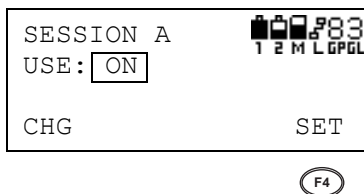

Figure 3-117. Use (Turn On) Session
4. Turn this session on or off and press **F4** (SET) to apply the settings (Figure 3-117). A session that is off will not run.